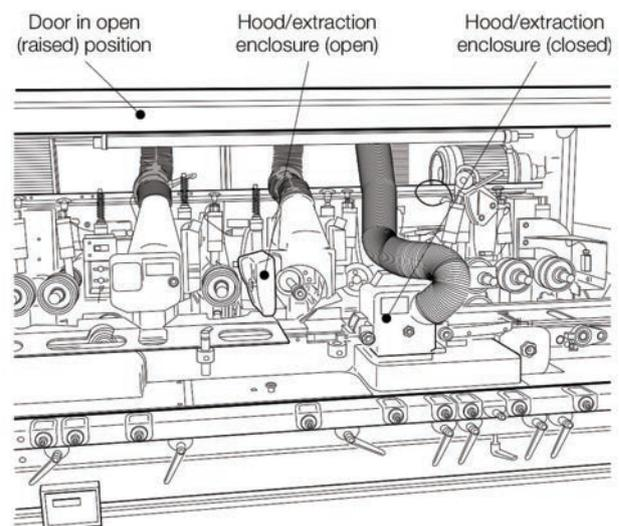

Figure 1a Newer machine with integral enclosure (open)
To prevent access to the tools, newer machines have fixed and movable guards which make up an integral enclosure (see Figures 1a and 1b). The enclosure is designed so that no one can stand inside it when the access door is closed. If the enclosure door has to be open, for tool changing or setting, then it should be interlocked with all directly accessible cutting and feeding movements of the machine. The interlocking devices should have guard locking, except for movements in the setting mode. Any interlocks used should comply with BS EN 14119.⁴
- hood/extraction enclosures that also provide effective guarding around the cutter blocks, particularly the vertical and horizontal top cutter blocks (see Figures 1a and 2);